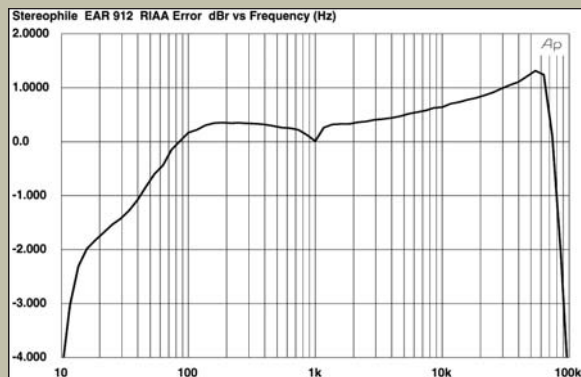

Fig. 1 EAR 912, RIAA error (right channel dashed, 1dB/vertical div).
Fig. 1 shows the 912's phono-stage frequency response, assessed at the main outputs. The RIAA correction appears to incorporate the IEC-recommended LF rolloff, but also features a slightly rising response above 5kHz. In this respect, it is less accurate than EAR's solid-state 324 phono preamplifier that AD reviewed in July 2004. Even when set to the highest gain, the 912's phono-stage signal/noise ratios were excellent. In MM mode, the A-weighted ratio was 81dB (ref. 1kHz at 5mV), this decreasing to a still good 67.7dB, wideband, unweighted. Due to the 912's use of a transformer to provide the additional gain required, the MC mode's S/N ratios were not appreciably different, at 79.7dB and 66.7dB, respectively (both figures referred to 1kHz at 500µV). This is a superbly quiet preamp.